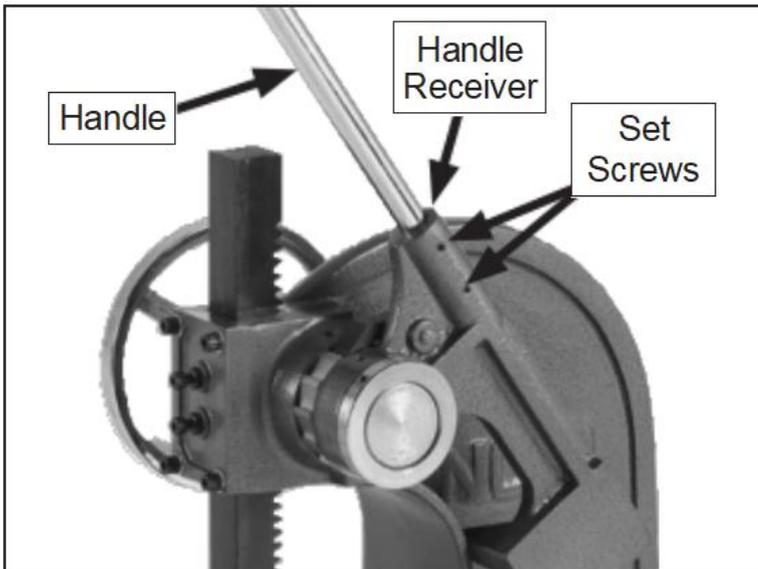

Figure 7. Handle inserted into receiver.
2. Insert the handle into the handle receiver (see **Figure 7**) and tighten both set screws.